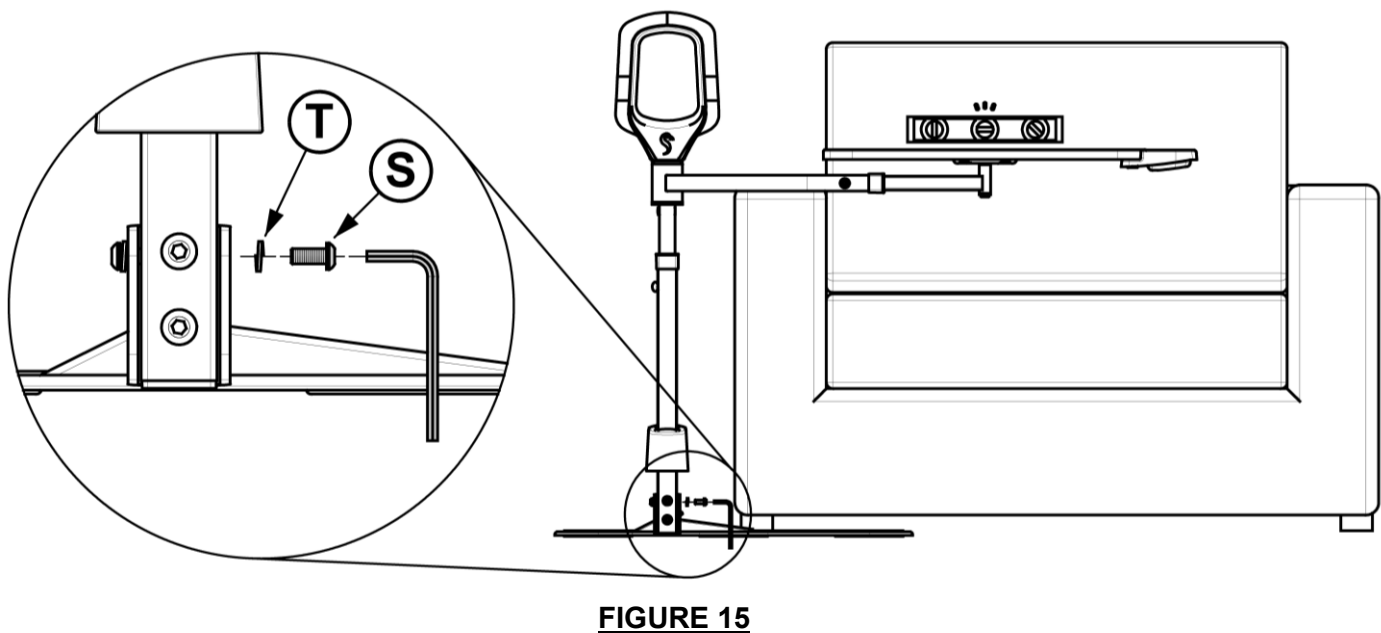

**FIGURE 13**
13. Adjust tray to desired height, ensuring Spring Button is engaged with a hole, and secure Set Screw in Upright **D** with Tool **M** as shown in *FIGURE 13*.